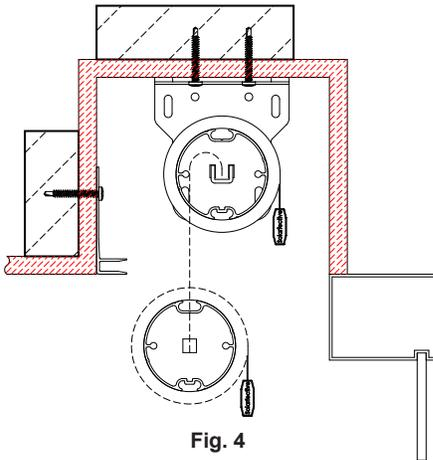

Fig. 4
- 4 **If a single-banded shade:** Insert idler bracket, then lift motor end up and over saddle and drop into place. (Fig. 4)